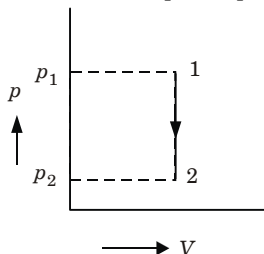

Fig. 1.19.2. Constant volume process.
2. Constant volume process (Fig. 1.19.2) (isochoric process)